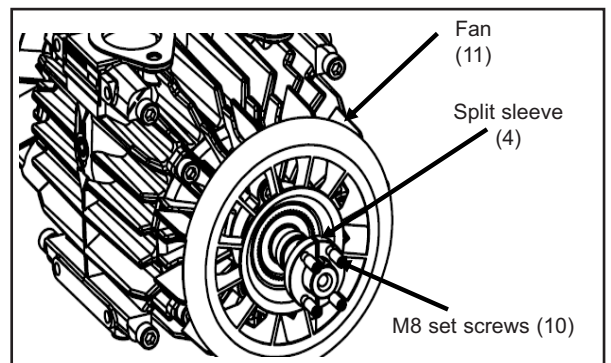

Figure 28
6. Attach the fans (11) and split sleeves (4) with the M8 set screws (10) coated with Loctite® \* 243. Torque the set screws to 11 lbs ft (15 N.m). See figure 28.